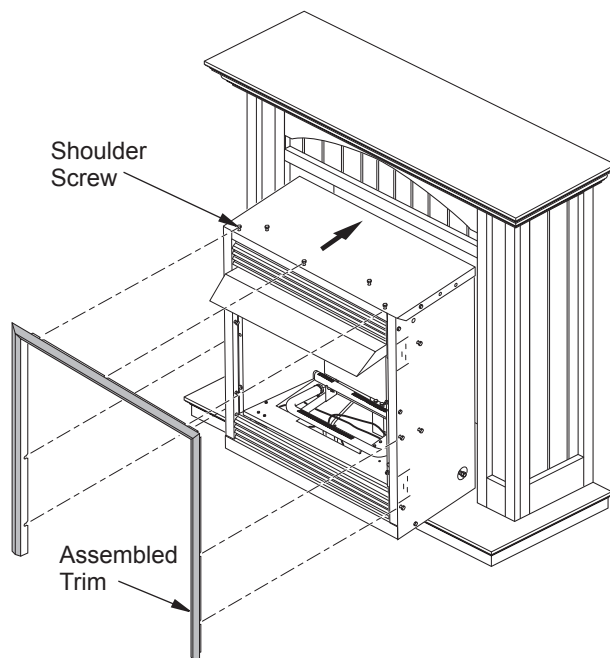

Figure 7 - Inserting Fireplace Into Cabinet Mantel
4. Position firebox inside mantel, carefully positioning gas lines (see Figure 7). **IMPORTANT:** Use caution when positioning fireplace on mantel base. Base may scratch easily.
5. Place trim kit on the shoulder screws located on the side and top of the fireplace. Firmly snap the trim over the shoulder screws on fireplace (see Figure 7). Align fireplace in mantel assembly so that the trim overlaps the mantel evenly on all three sides.